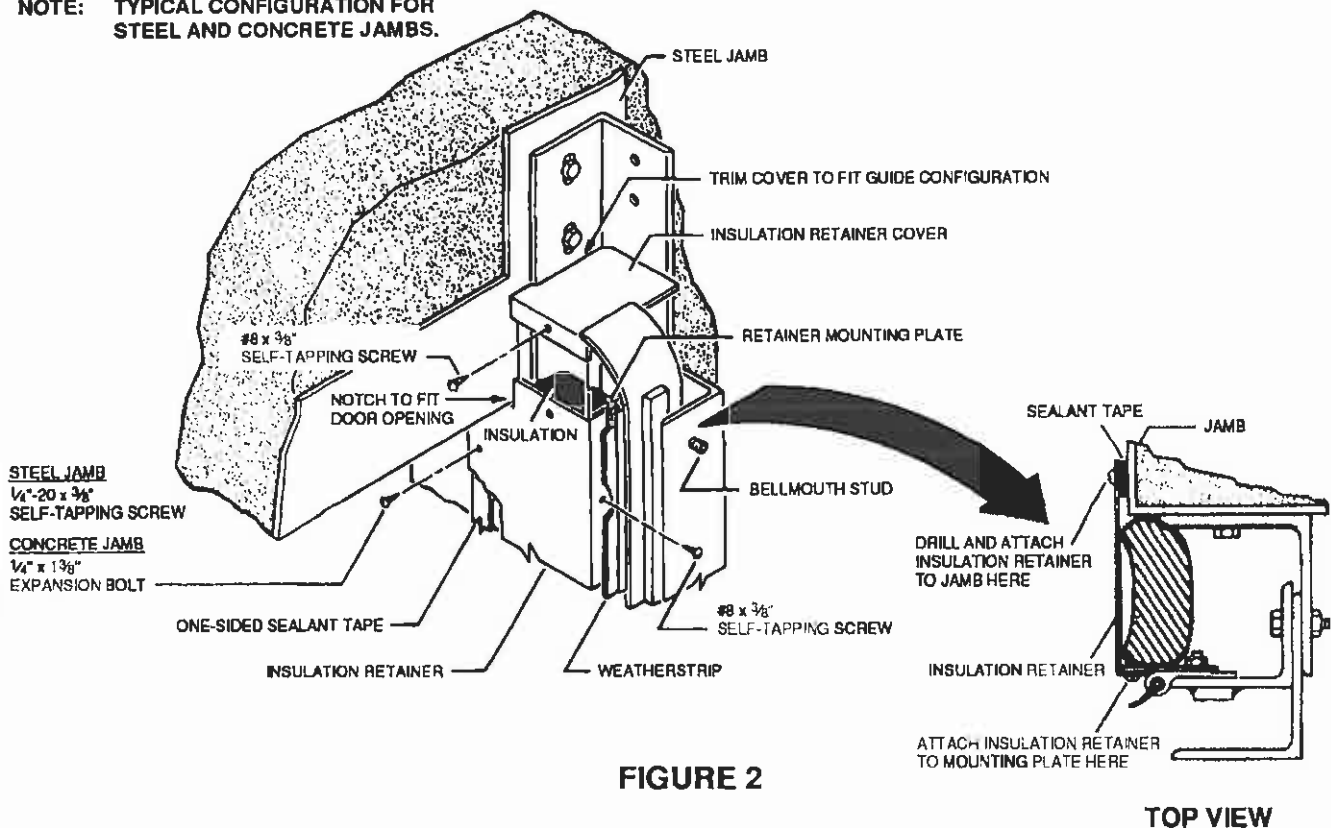

FIGURE 2
3. Place insulation retainer against jamb and notch top corner to fit under door opening (see Figure 2). Remove protective backing from one-sided sealant tape and adhere to edge of insulation retainer. See Figure 2.
4. Insert one (1) strip insulation into guide angle.
NOTE: It is not necessary to trim for width. Secure insulation retainer to retainer mounting plate with #8 x 3/8" self-tapping screws. See Figure 2.
5. Drill through insulation retainer, tape and into jamb. Secure insulation retainer to jamb with appropriate hardware. See Figure 2.
6. Trim insulation retainer cover to fit guide angle configuration and place over insulation and insulation retainer. Attach to insulation retainer with one (1) #8 x 3/8" self-tapping screw. See Figure 2.